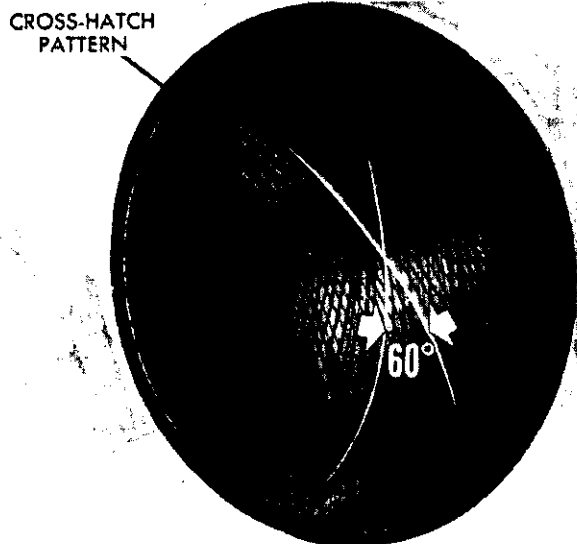

Fig. 30—Cross Hatch Pattern
(3) Honing should be done by moving the hone up and down fast enough to get a cross-hatch pattern. When hone marks intersect at 60°, cross hatch angle is most satisfactory for proper seating of rings (see Fig. 30).
(4) After honing, it is necessary that the block be cleaned again to remove all traces of abrasives. Wash cylinder block and crankshaft thoroughly.